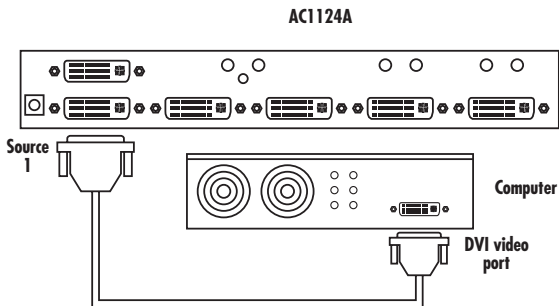

Figure 3-1. Attaching the source's DVI port to the switch's source 1 video port.
1. Connect the source's DVI video port to the switch's source 1 video port. See Figure 3-1.